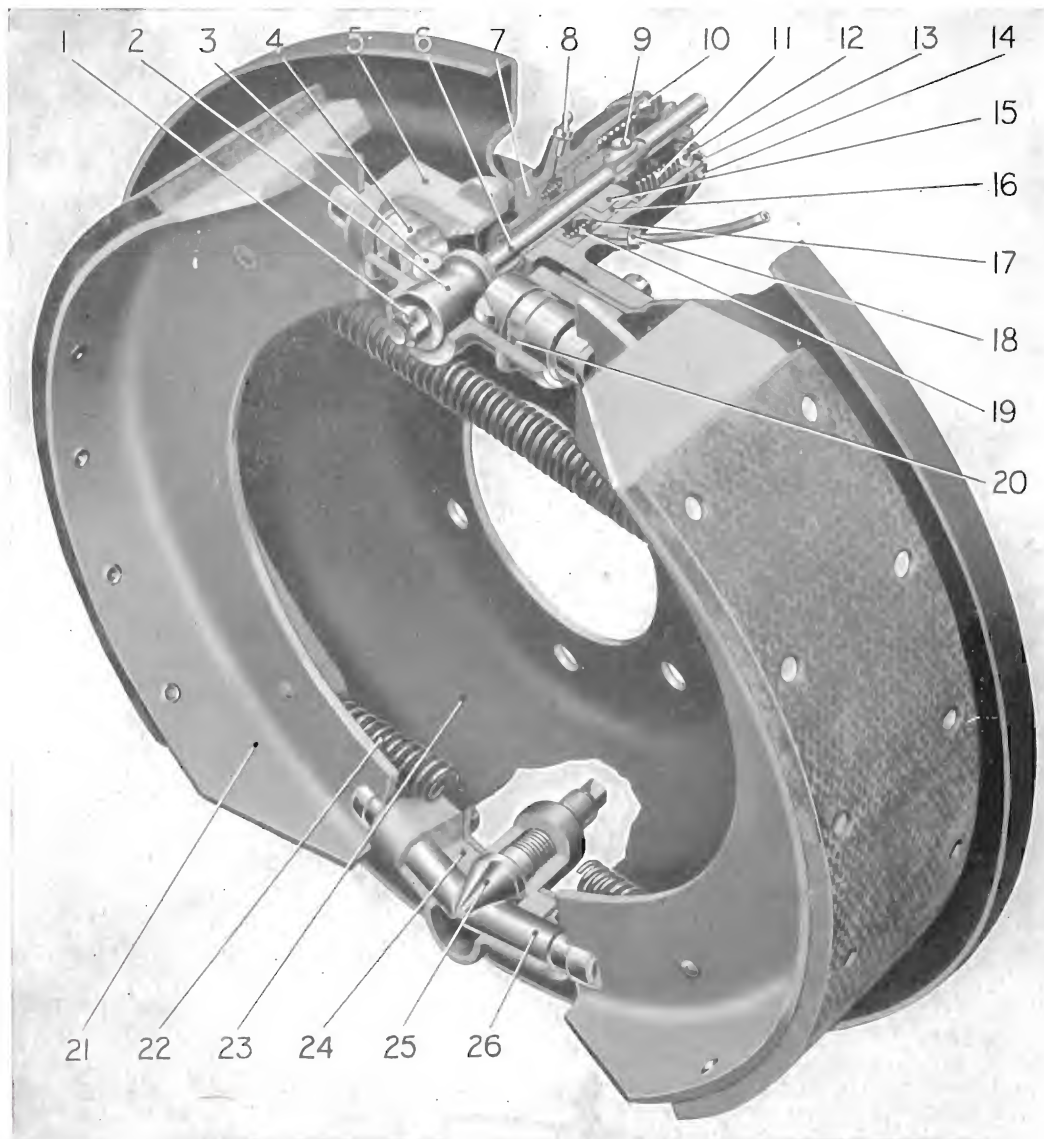

Fig 3.
The adjuster is shown in Fig. 3. A hardened steel cone (25) is formed on a fine threaded spindle and mounted in a steel housing (24) bolted to the back plate. The